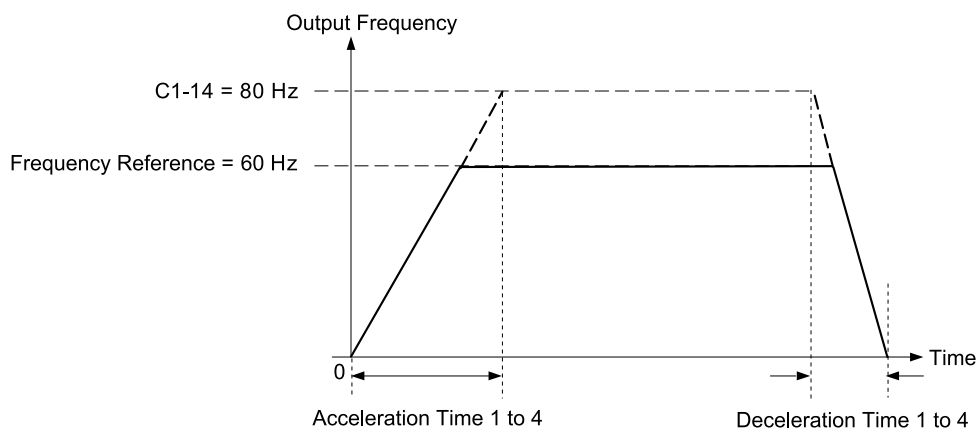

**Figure 12.38 Example 1: Acceleration/Deceleration Rate (When C1-14 = 0 Hz, E1-04 = 60 Hz, and the Frequency Reference is 60 Hz)**
- Figure 12.38 to Figure 12.40 show the accel/decel times when C2-01 to C2-04 [S-Curve Times @ Start/End of Accel/Decel] = 0.00 s.